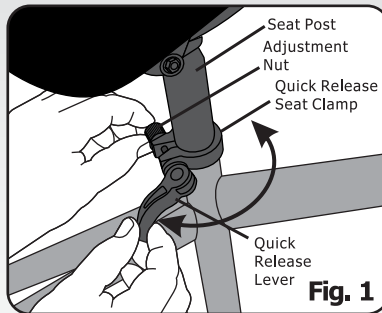

Fig. 1
- 1.** When Quick Release is in the open position, see (**Fig. 1**) insert the seat post above the Minimum Seat Post Mark.